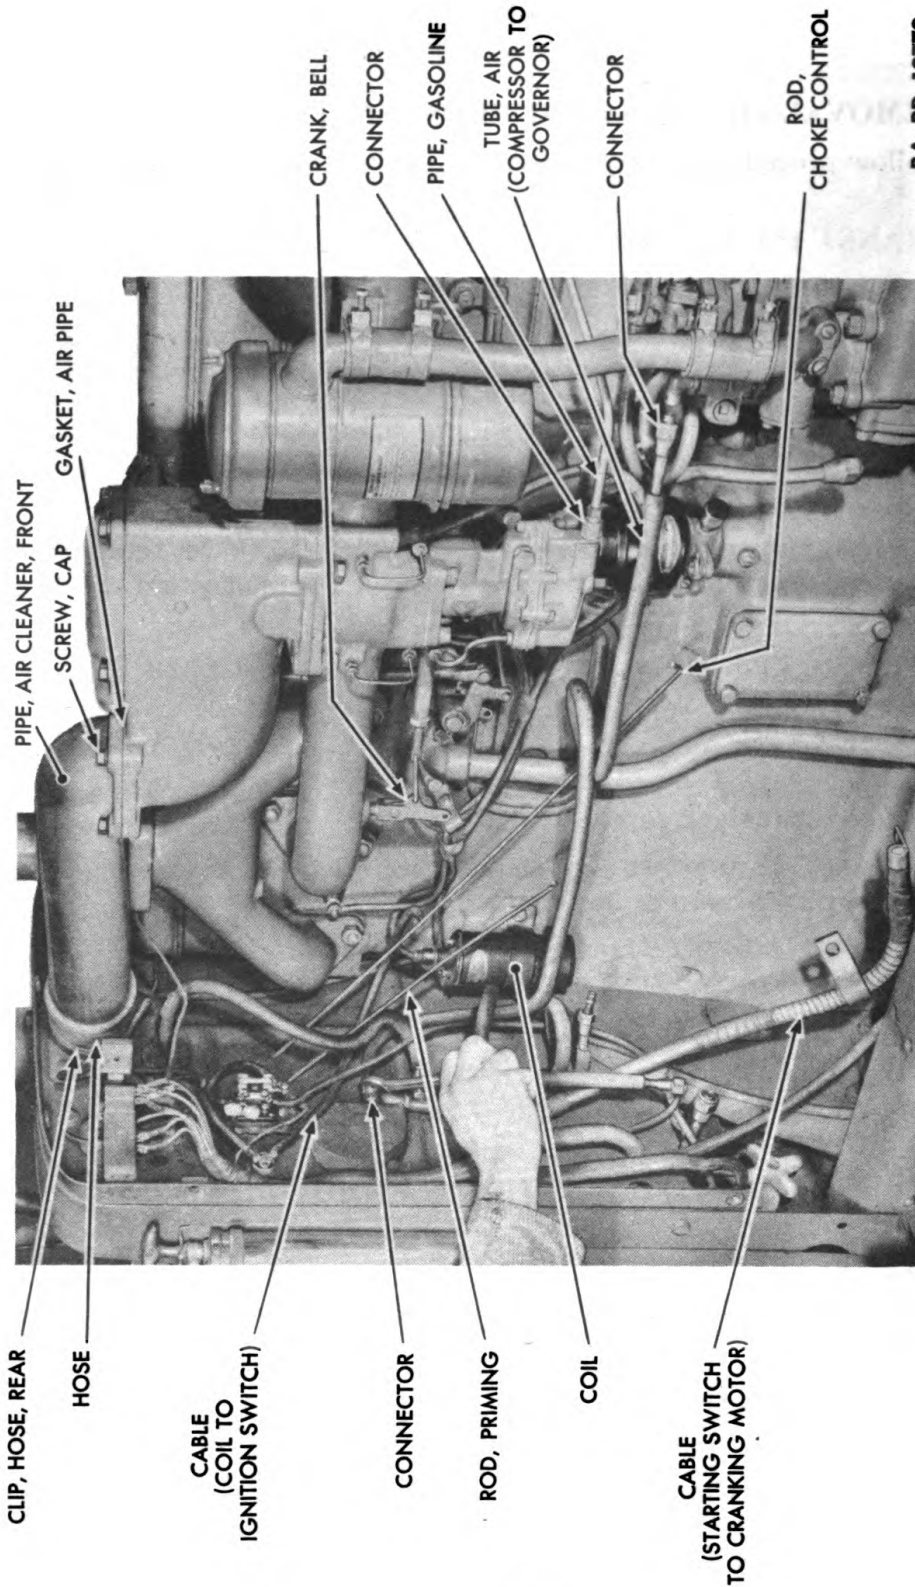

Figure 13—Removal of Compressor to Governor Air Tube
(2) REMOVE AIR RESERVOIR. See TM 9-1777D.
(3) DISCONNECT CHOKE CONTROL ROD FROM BELL CRANK AT CARBURETOR (fig. 13).
(4) DISCONNECT PRIMING ROD FROM BELL CRANK AT REAR OF INTAKE MANIFOLD (fig. 13).
(5) DISCONNECT STARTING SWITCH TO STARTING MOTOR CABLE FROM STARTING MOTOR (fig. 13).
(6) DISCONNECT CABLE (COIL TO IGNITION SWITCH) (fig. 13).
(7) REMOVE AIR TUBE (COMPRESSOR TO GOVERNOR) (fig. 13).
(8) REMOVE FRONT AIR CLEANER PIPE (fig. 13).